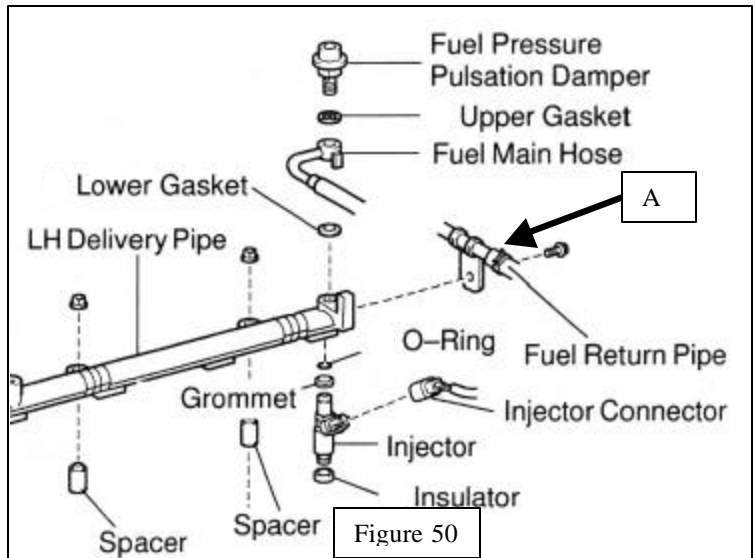

Figure 50
22. Use the OE clamp removed in Step 55 (Part B, Page 13) to secure the TRD fuel return line to the rear of the driver-side fuel delivery pipe (Arrow A, Figure 50). Torque OE bolt to 7.5 N-m (66in.-lbf).
23. Re-connect the OE fuel return hose to the TRD return line using the OE hose clamp (Figure 50).